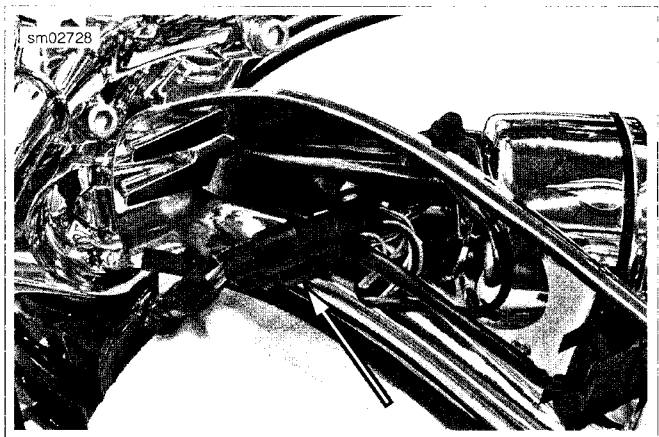

Figure 7-68. Console Wiring
6. See Figure 7-68. Disconnect electrical connector and remove instrument console.
1. See Figure 7-68. Connect connector if necessary. Lay console over center of tank.